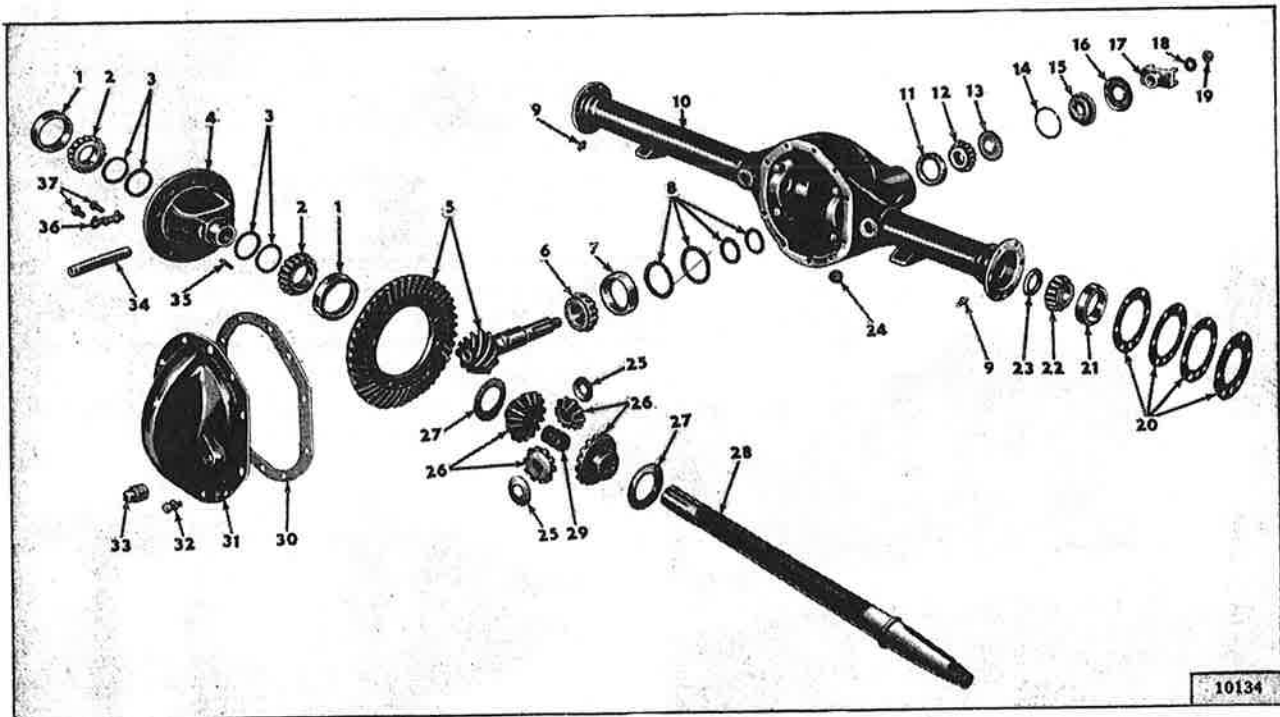
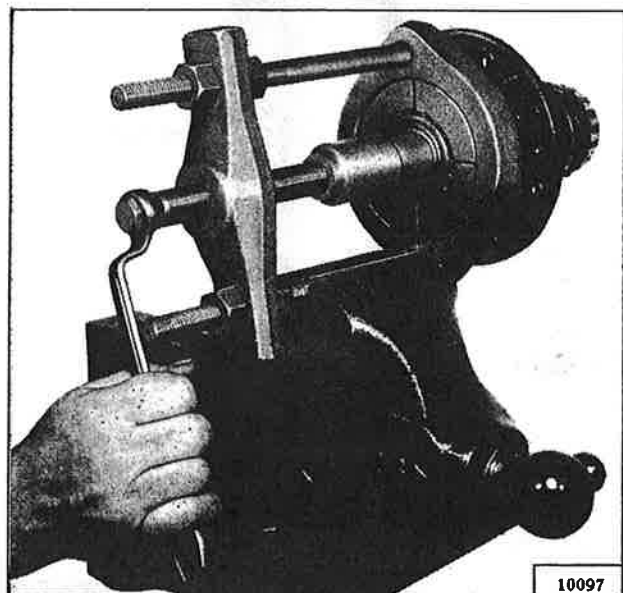

FIG. 238—REAR AXLE
FIG. 245—BEARING PULLER
NOTE: Whenever an axle differential is inspected, see if the ring gear lock straps are present. These straps should be installed on those axles without them. See Fig. 238.
To remove the bearing from an axle shaft, use Combination Bearing Puller W-104-B shown in Fig. 245.
- Refer to Fig. 238.
To remove the differential case bearings and pinion bearings Fig. 238, use Bearing Puller W-104-B as shown in Fig. 245.